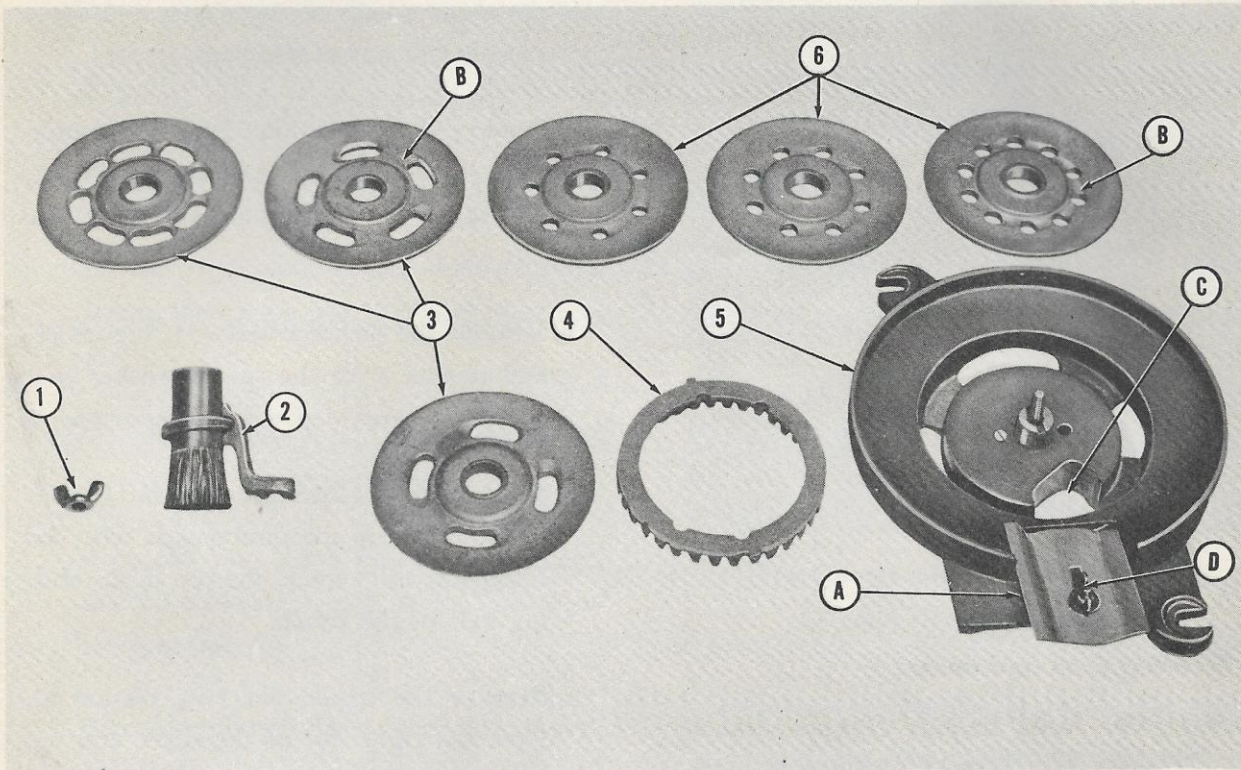

Figure 14
NOTE: The Kelly Peanut Attachment Model 12-13, is extra equipment available at additional cost from your Ford Tractor and Dearborn Farm Equipment dealer. It consists of three sets of plates for planting shelled peanuts (6), Figure 14, three sets of plates for planting unshelled peanuts (3), and a peanut brush (2) as shown in Figure 14. To assemble the seed hoppers for planting peanuts proceed as follows:
a. Place the retaining ring (4) in the center
of the hopper bottom (5), Figure 14, with the gear teeth down.
b. Place the desired peanut plate (3) or (6), Figure 14, on the bolt in the center of the hopper bottom with the beveled holes (B), up.
c. Place the peanut brush (2), Figure 14, on the machine bolt in the center of the hopper bottom, position the brush over the seed outlet (C) and secure with the wing nut (1).
d. Close the slide gauge (A) and secure with the wing nut (D), Figure 14.